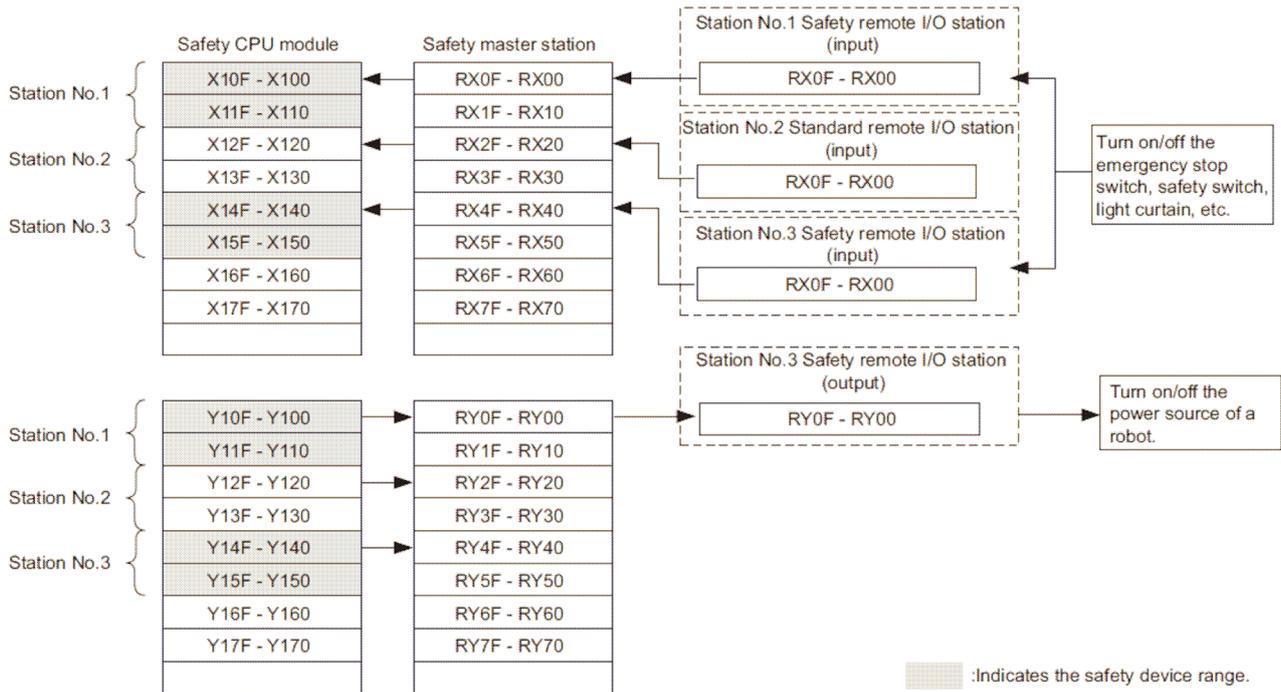

Figure APP.1 I/O data of safety remote station *1
*1: Figure APP.1 shows a case where X100 and Y100 are set with the auto refresh parameter. The following device ranges actually not input/output to the safety remote I/O station are included.